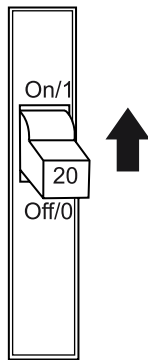

Figure 67. GFCI Circuit Breaker
2. Place a **GFCI circuit breaker** (Figure 67) in the **ON** position.